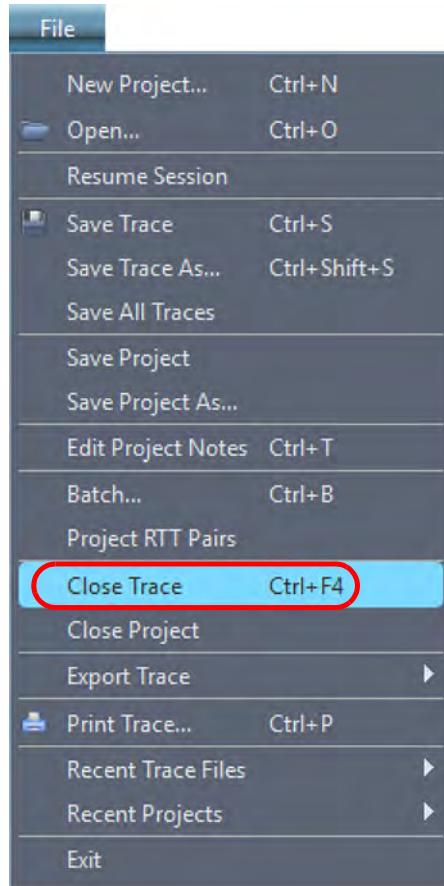
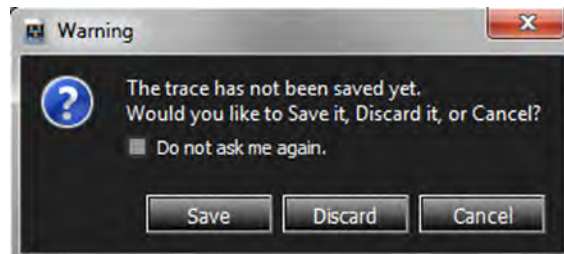

Figure 3.27: Close Trace
Figure 3.28: Close Trace Warning Prompt
1. Select **File** → **Close Trace** (Figure 3.27). The warning dialog box appears (Figure 3.28).